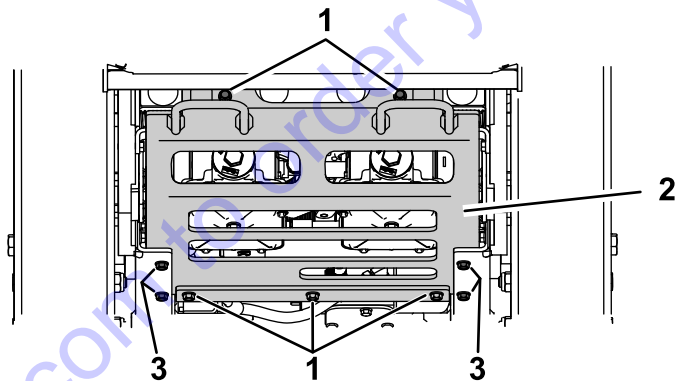

Figure 43
5. Remove the skid plate (Figure 43).